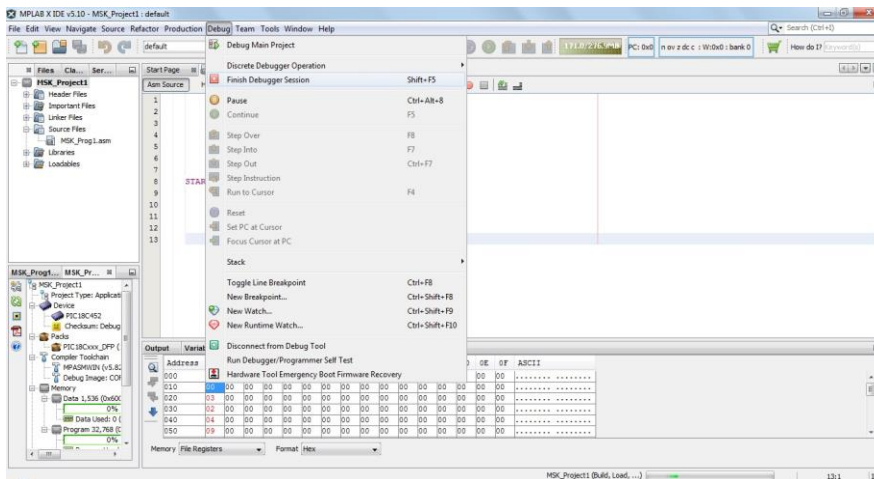

Fig 4.25 Finish Debugger Session
21. To finish debug, click on “Debug” menu and select “Finish Debugger Session” as shown in Fig 4.25.